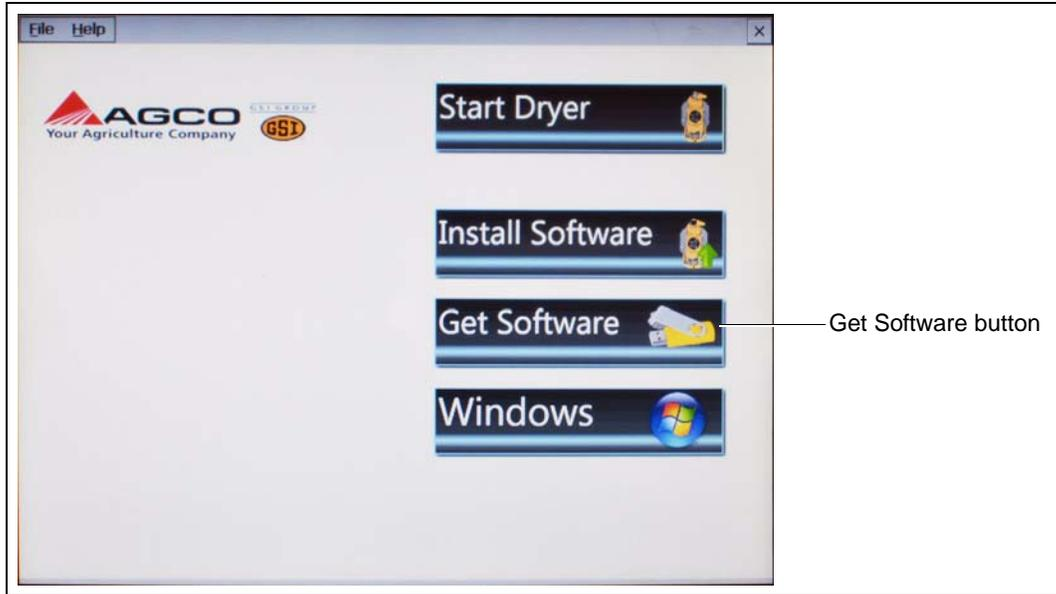

Figure 3
3. When the “Boot Screen” appears, select the “Get Software” button. (See Figure 3.)